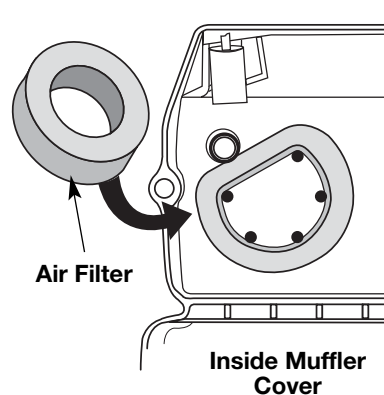

Fig. 22
2. Turn cover over and look inside to locate the air filter. Remove the air filter from inside the air filter/muffler cover (Fig. 22).
6. Replace the air filter inside the air filter/muffler cover (Fig. 22).